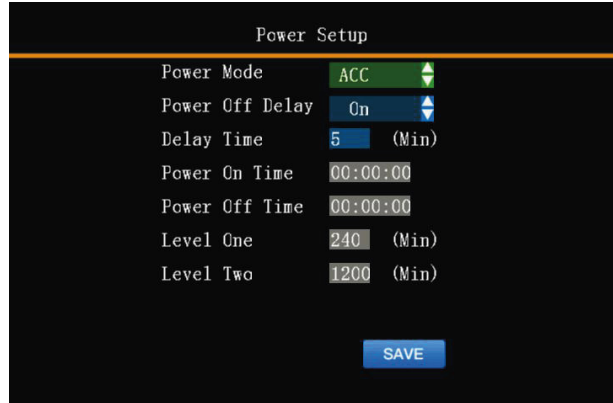

Figure 3-9
3.2-2 Power Set (see Figure 3-9)